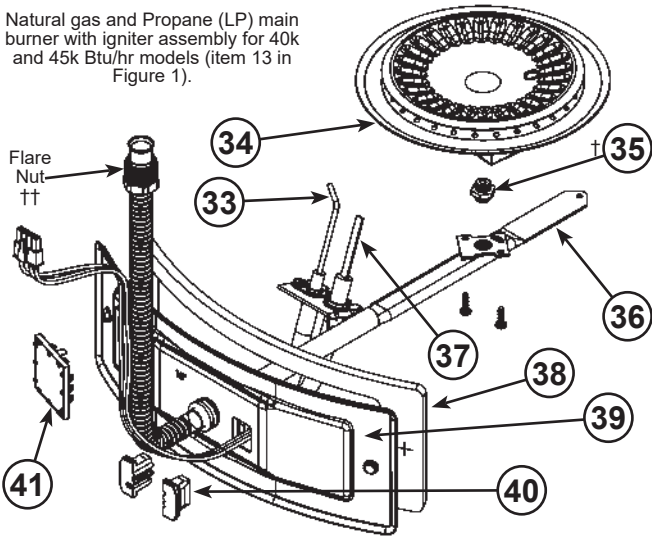
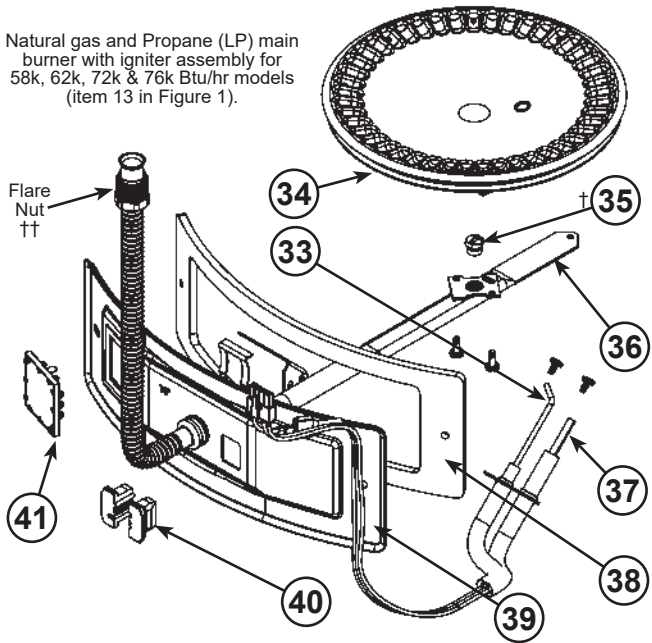

Figure 51.
Figure 52.
- 13 Manifold Door Assembly (behind outer door) (see Figure 3 & Figure 4) (see also Figure 51 & Figure 52)
- 33 Flame Sensor Rod (see Figure 3 & Figure 4) (see also Figure 51 & Figure 52)
- 34 Sheet Metal Burner (see Figure 3 & Figure 4) (see also Figure 51 & Figure 52)
- 35 Gas Orifice (see Figure 3 & Figure 4) (see also Figure 51 & Figure 52)
- 36 Gas Manifold (see Figure 3 & Figure 4) (see also Figure 51 & Figure 52)
- 37 Hot-Surface Igniter (see Figure 3 & Figure 4) (see also Figure 51 & Figure 52)
- 38 Manifold Door Gasket (see Figure 3 & Figure 4) (see also Figure 51 & Figure 52)
- 39 Manifold Door (see Figure 3 & Figure 4) (see also Figure 51 & Figure 52)
- 40 Two Piece Grommet With Clip (see Figure 3 & Figure 4) (see also Figure 51 & Figure 52)
- 41 Viewport (see Figure 3 & Figure 4) (see also Figure 51 & Figure 52)